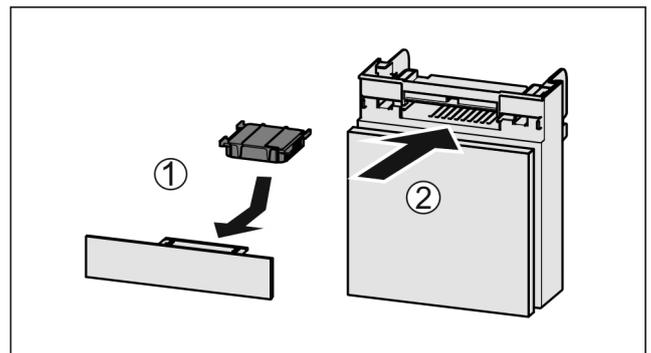

Fig. 110
- Insert the carbon filter as shown in the diagram Fig. 110 (1).
► Push the compartment in Fig. 110 (2).